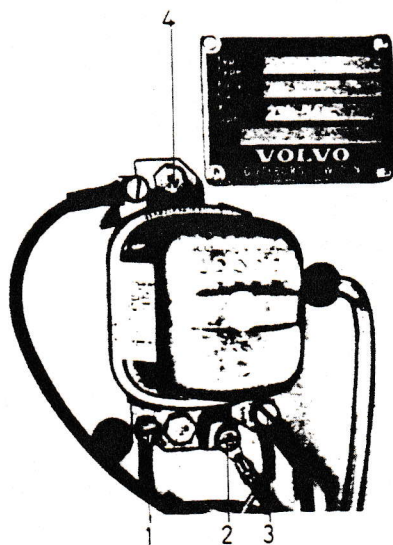

Fig. 31. Charging regulator terminals
3. Connect the leads as shown in Fig. 31.